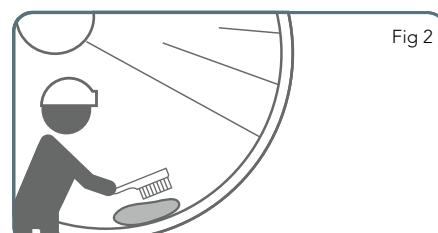

Fig 2
- Support pipe or fitting just clear of the trench bottom and insert spigot into socket until contact is made. Push the spigot end until the first mark disappears inside the socket. The second mark must still be visible after assembly. (See fig 2)